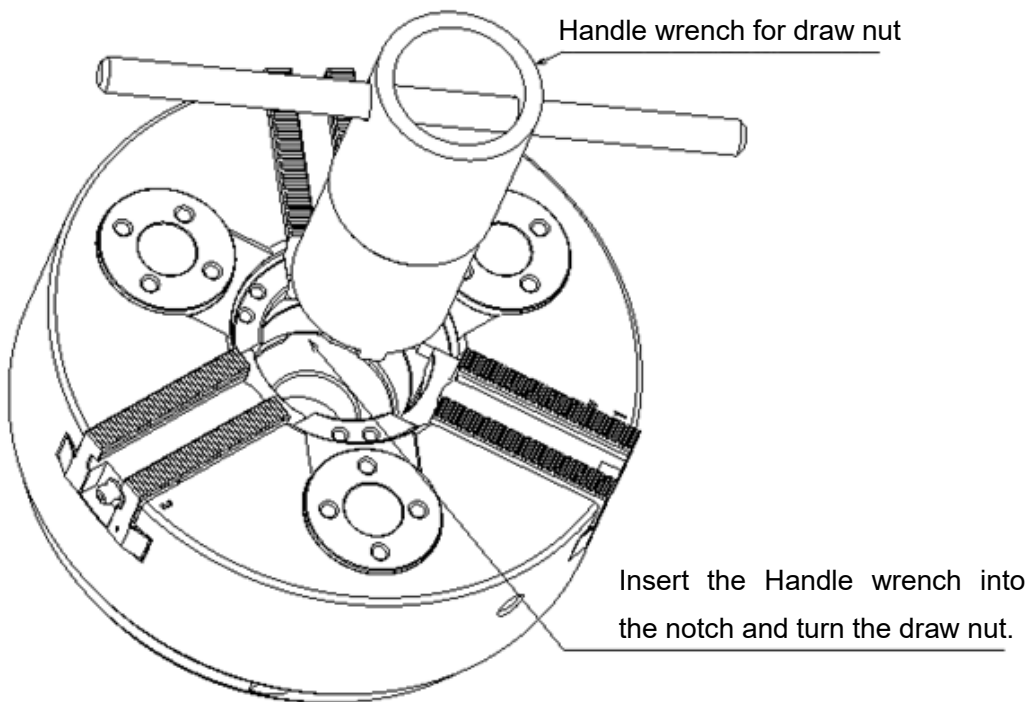

Figure 31
- ③ Install the cylinder on the spindle.
- ④ Check the run-out of the cylinder. If normal, connect the hydraulic hose and the drain hose.
- ⑤ Turn on the machine power, and operate the cylinder several times at 0.5 MPa. If it is normal, move the piston to the forward end and turn off the machine main power.
- ⑥ Remove the Soft jaws and Cover of the chuck.
- ⑦ Insert the Handle wrench for draw nut into the chuck center hole as shown in figure 31, and connect the Draw nut to the Draw pipe while rotating the Draw nut. If it cannot be screwed in smoothly, do not screw forcibly and check the thread for inclination.
- ⑧ Rotate the Draw nut until the chuck is completely fitted to the spindle installation surface.
- ⑨ Tighten the chuck mounting bolts evenly with the specified torque. (See “2.Important Safety Precautions”) The chuck circumference run-out must be 0.020 mm T.I.R or less. When performing centering adjustment, tap the body side face with a plastic hammer.
- ⑩ Rotate the Draw nut until the Master jaw base line is aligned with the outer line of the stroke mark. (Refer to page 23.)